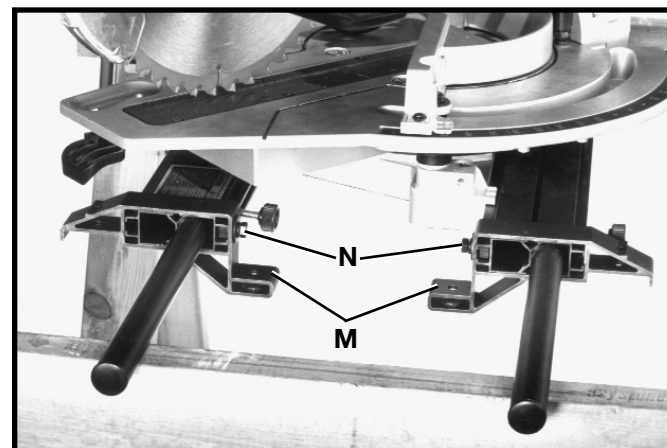

Fig. 65
9. When using the saw on saw horses or 2 x 4 extensions (See Figures 70 and 71), assemble the mounting feet (M) to the channels as shown in Fig. 65, and tighten screws (N). Assemble the remaining two mounting feet to the other side of the machine in the same manner.